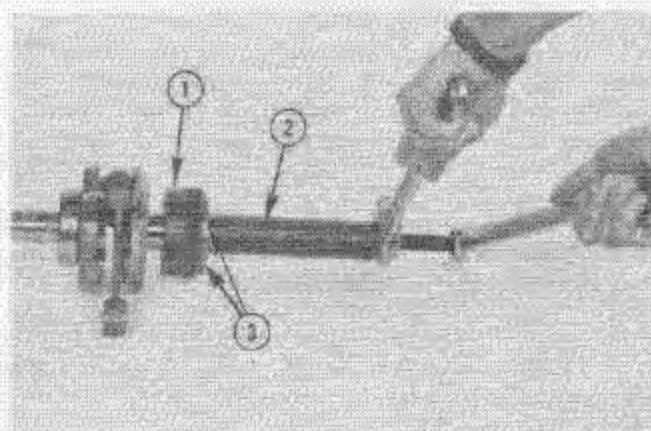

Fig. 5 — Removing Crankshaft Bearings
13. Use special tool as shown in Fig. 5 to remove crankshaft bearings.